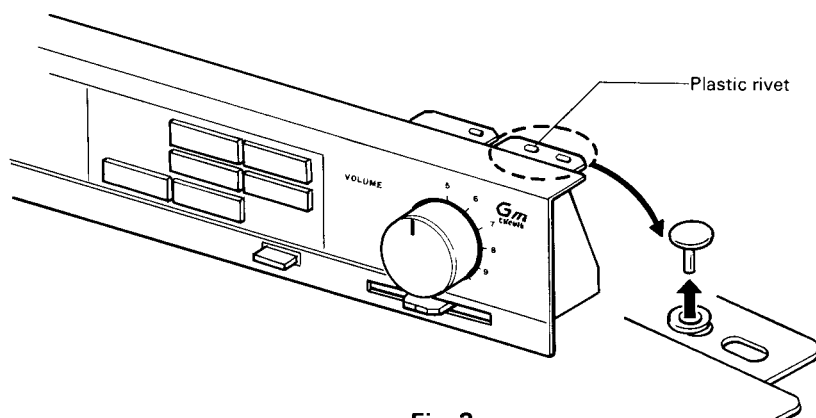

Fig. 2
1. Pull out the plastic rivet bushes by pressing it from the bottom plate. (Fig. 2)